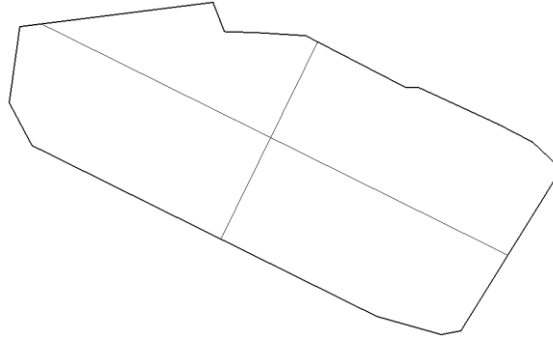

Figure 117: Planar surface representing the floor of the pit
14. **_Delete** the original (light blue) contour line, select the Polyline you just created and type **_PlanarSrf** to create a surface spanning across the Polyline. Delete the Polyline (Figure 117). Rename "Layer 01" to "surfaces". Select the polysurface, right click on the "surfaces" layer and select Change Object Layer.